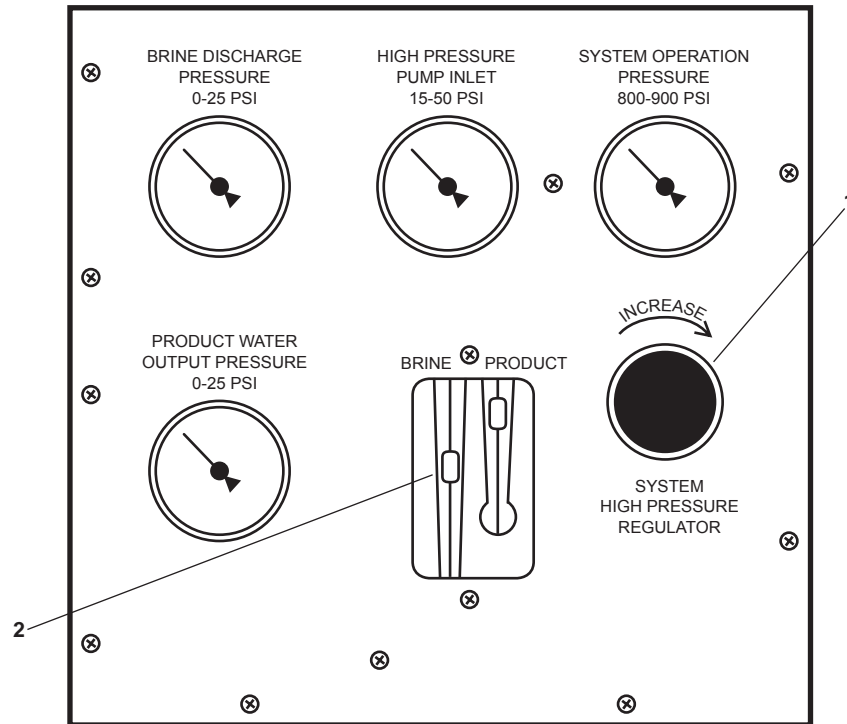

Figure 10. Flow Control Panel
12. At both flow control panels, verify that the SYSTEM HIGH PRESSURE REGULATOR valves (figure 10, item 1) are OPEN in the fully counterclockwise position.
15. At both flow control panels, verify that the BRINE flow meters (figure 10, item 2) indicate flow rates of about 4 gallons (15 liters) per minute.